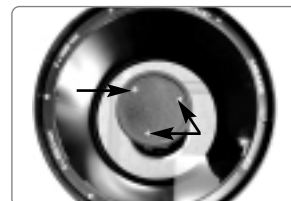

Fig. 31b: Collimation screws.
- a. The only adjustments possible, or necessary, on the Schmidt-Cassegrain LX200GPS models are from the three screws (**Fig. 31b**) located at the edge of the outer surface of the secondary mirror housing.